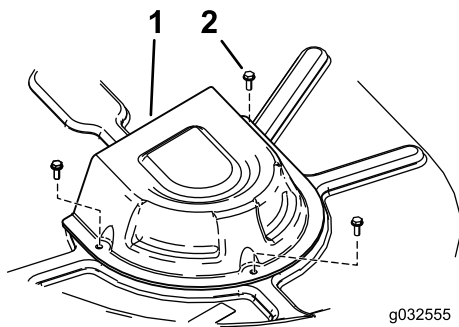

Figure 58
4. Remove the pulley covers (Figure 58).
8. Install the pulley covers (Figure 58).